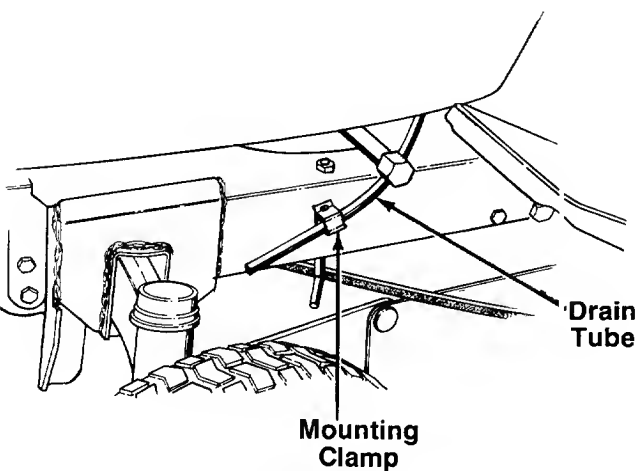

FIGURE 9B.—All Other Models
**All other models:** Route the battery drain tube down beside the oil drain pipe on the **left** side of the tractor. Slip the end of the drain tube into the mounting clamp which is attached to the left side of the frame as shown in figure 9B.